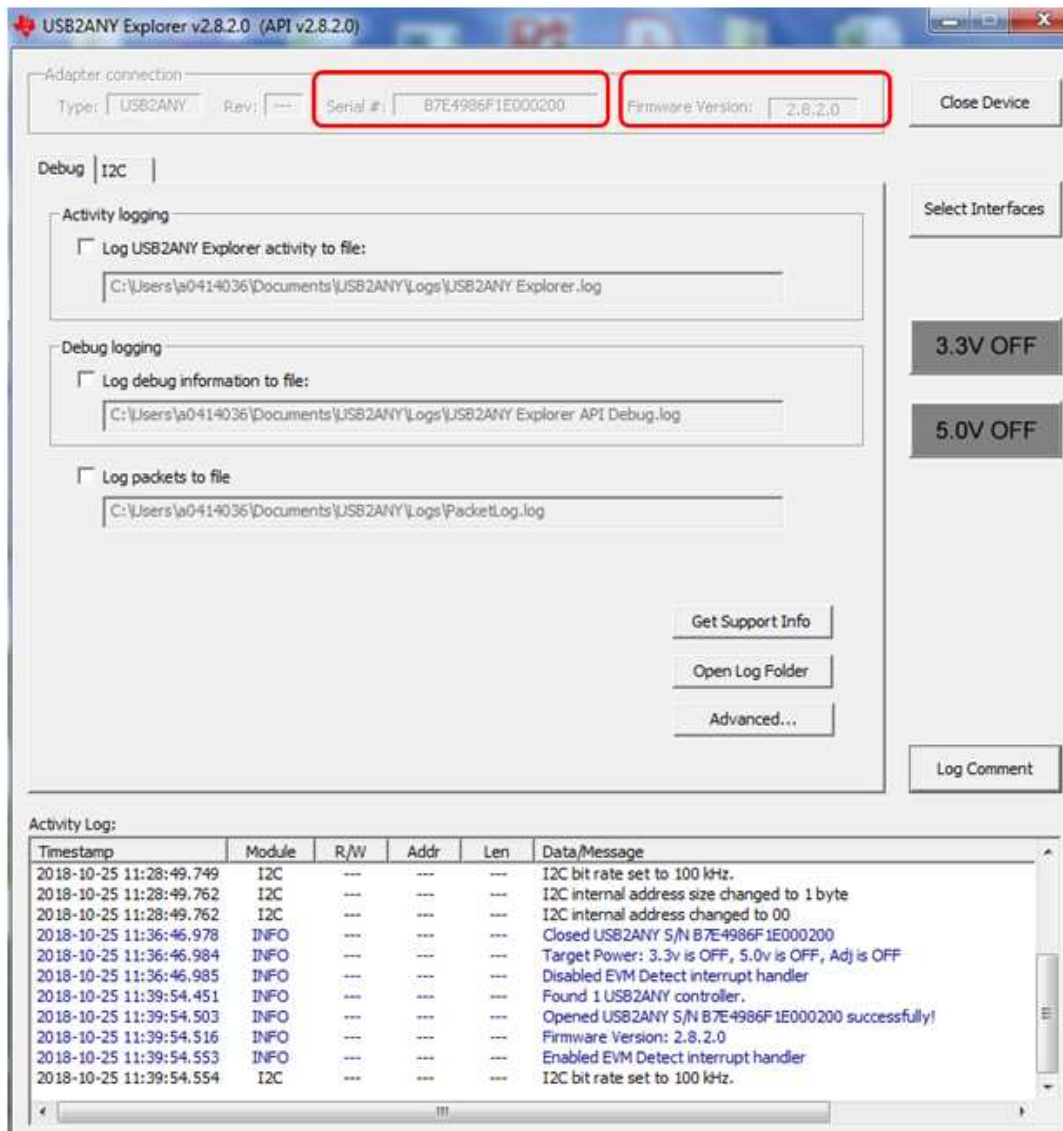

Figure 7. USB2ANY Box Serial Number and Firmware Revision
4. Start the USB2ANY GUI and make sure the GUI authenticates the USB2ANY box. The GUI should show the serial number and firmware revision as shown in Figure 7.